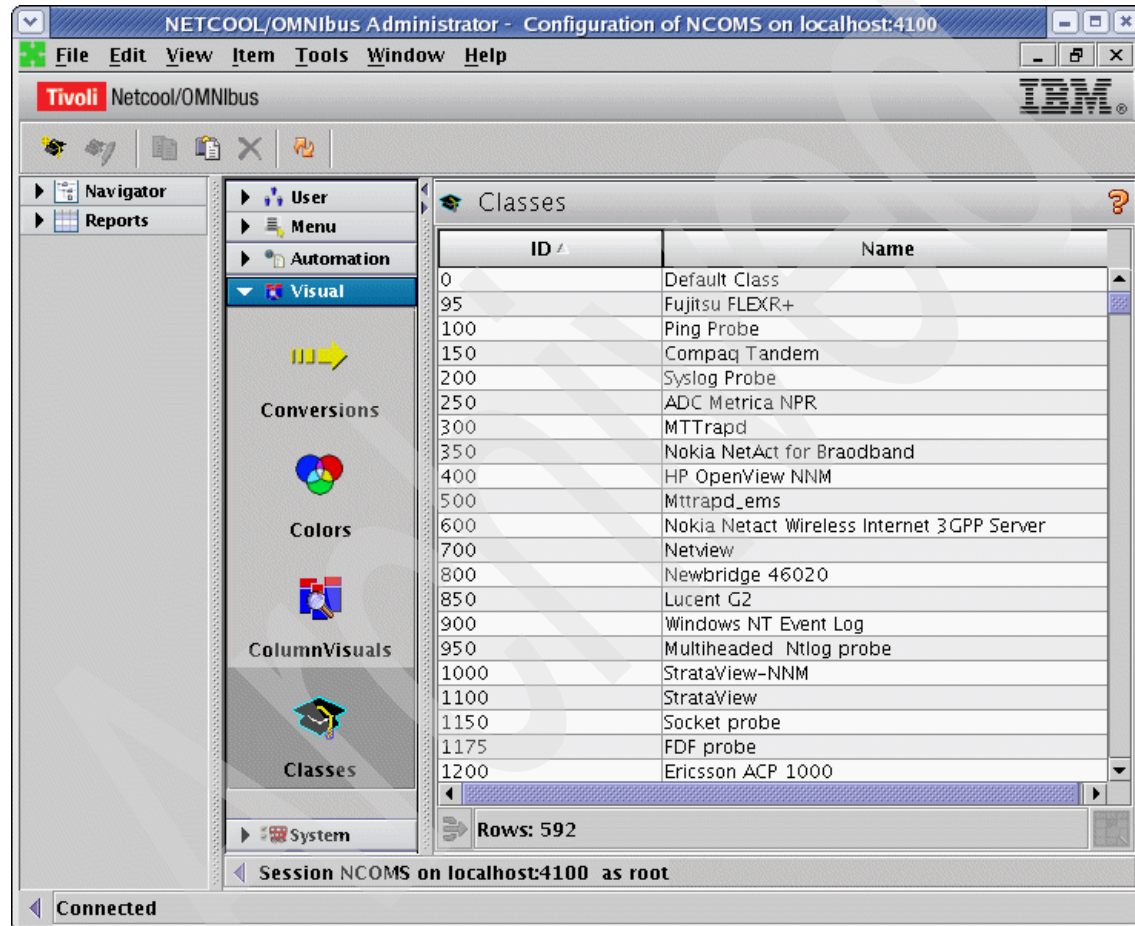

Figure 4-47 Administrator console Visual window
1. In the IBM Tivoli Netcool/OMNIBus Administration window, select **Visual** → **Classes**, as shown in Figure 4-47. Click the Add Class (🎓) icon.